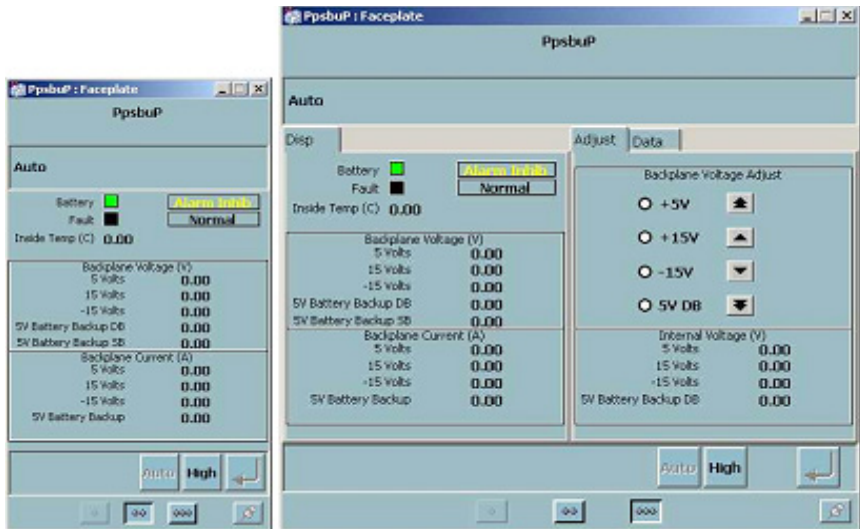

Figure 192. PSB Module
**Power Supply Board (PSB).** The Power Supply Board module faceplate provides status information about the power supply boards that are mounted in the DCU frame. The PSB module reports backplane voltages and currents, fan speed state, battery status, battery voltages, battery current, reference voltages, fan RPM, internal temperature, fault status, and alarm status used for display in the faceplate. Figure 192 shows the layout of the PSB normal and extended sized faceplate and its attributes.